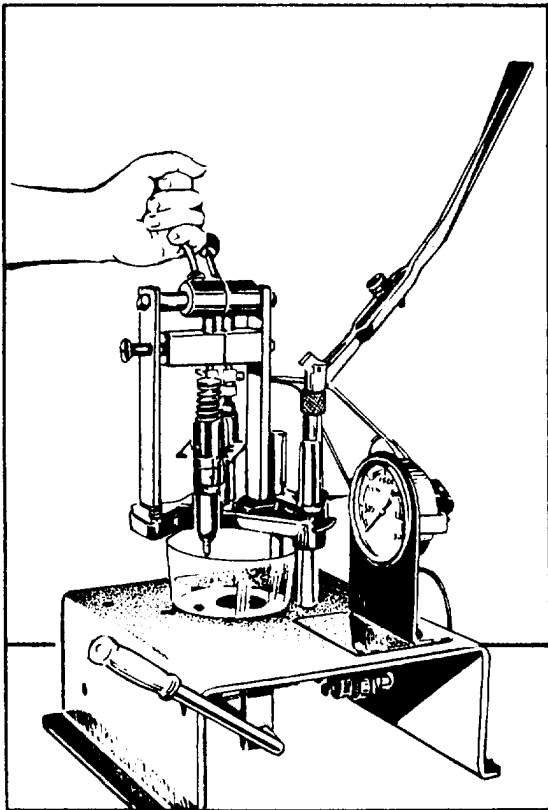

Figure 5-28.-Injector installed in tests.
**VALVE OPENING/PRESSURE TEST.**— The purpose of this test is to determine the pressure at which the valve opens and injection begins. Place the injector in the tester (fig. 5-28). Operate the pump handle until all air is purged from the injector tester and the injector. Then close the outlet clamp. If you are testing an injector that has just been removed from the engine, the flow of fuel through the injector on the tester should be the same as it was on the engine. If required, reverse the fuel connections on the tester to obtain the proper fuel flow.